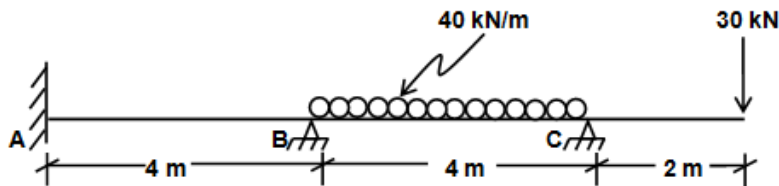

Fig. 4
3. Analyse the continuous beam shown in Fig. 4 by flexibility matrix method. Assume EI as constant. Also, draw the BMD. **(6)**